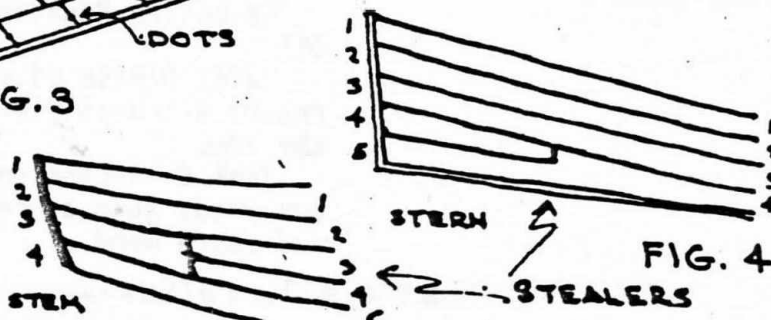

FIG. 4
10. Stealers are used if the plank will reduce in width at the stem or increase in width at the stern by more than 1/2 the width of the average plank. Example: A 9 inch plank greater than 12 inches or less than 5 inches. (See Fig. 4)